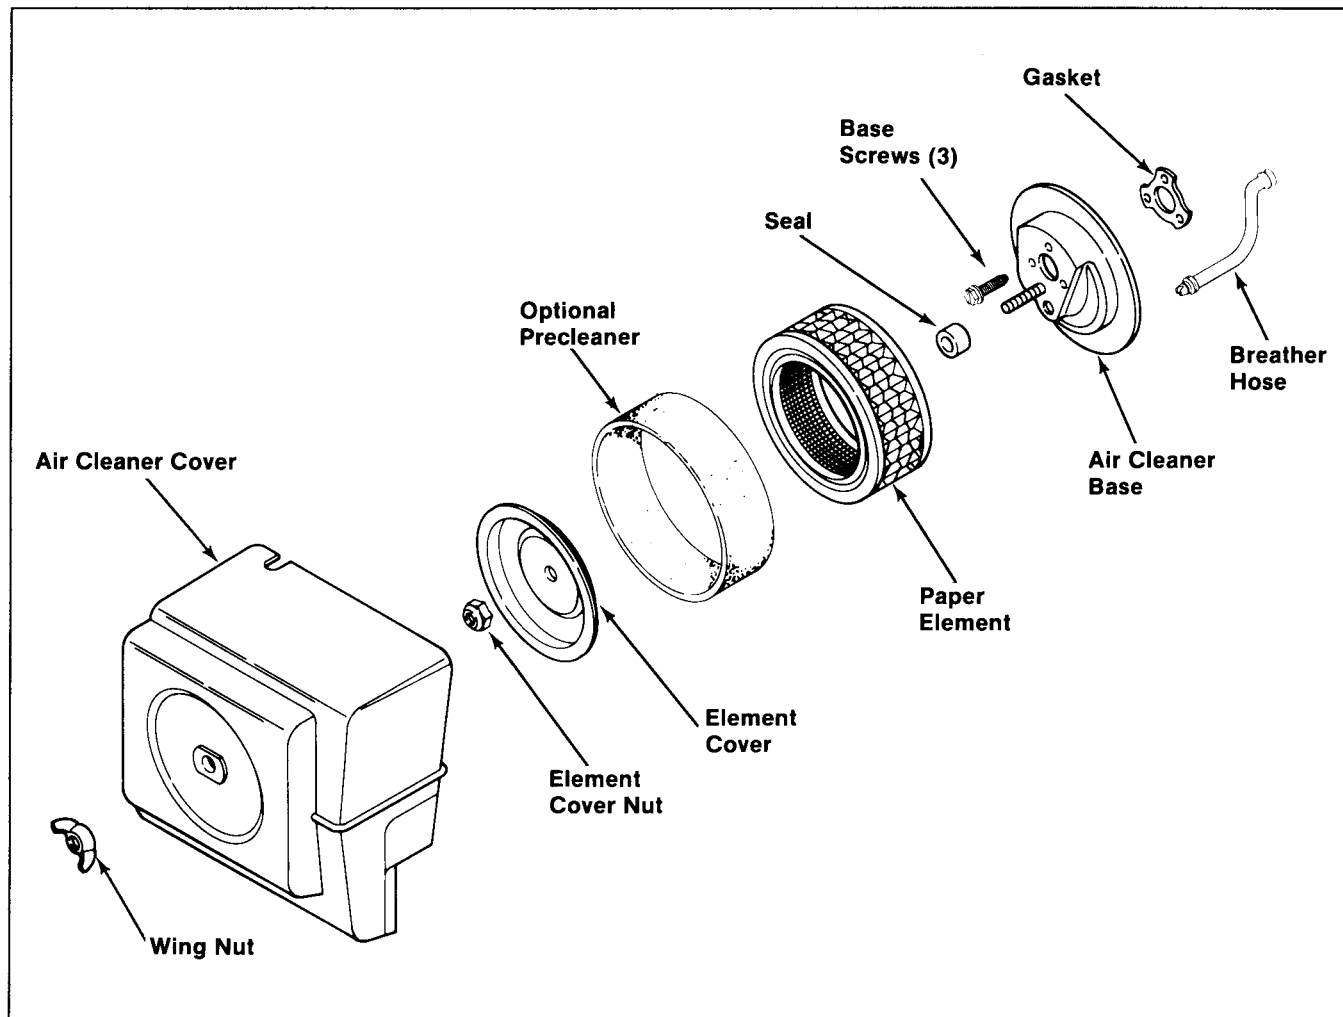

Figure 5-2. K181 New Look Air Cleaner Assembly.
2. **Element Cover and Element Cover Nut** – On K181 New Look engines only, make sure element cover is not bent or damaged. Check that element cover nut is secured tightly to seal element between air cleaner base and element cover. Tighten nut to 50 in. lb. torque. Refer to Figure 5-2.